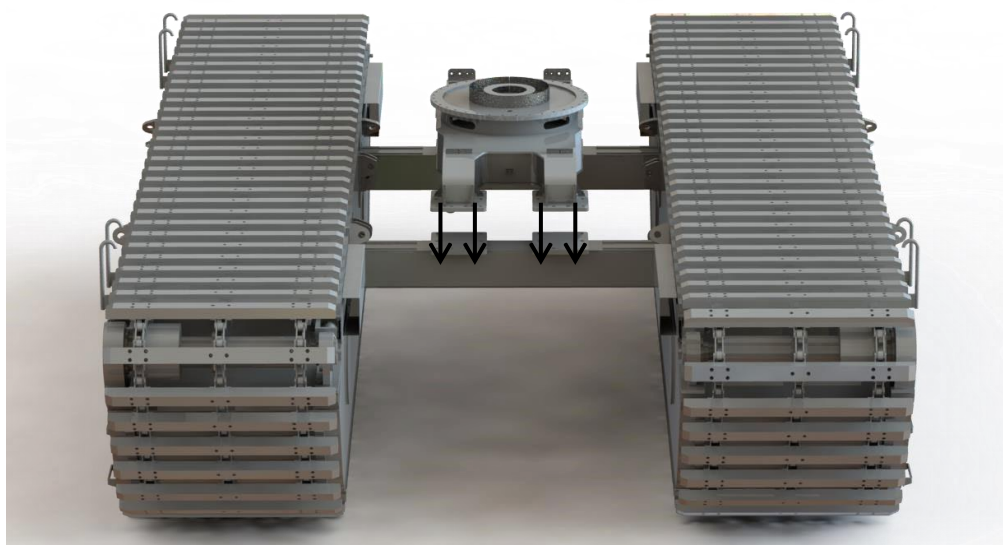

Figure 6.5
4. Place the slewing frame on the crossbeams. Align the slewing frame mounting flange with the crossbeam mounting flange. Refer to Figure 6.5.